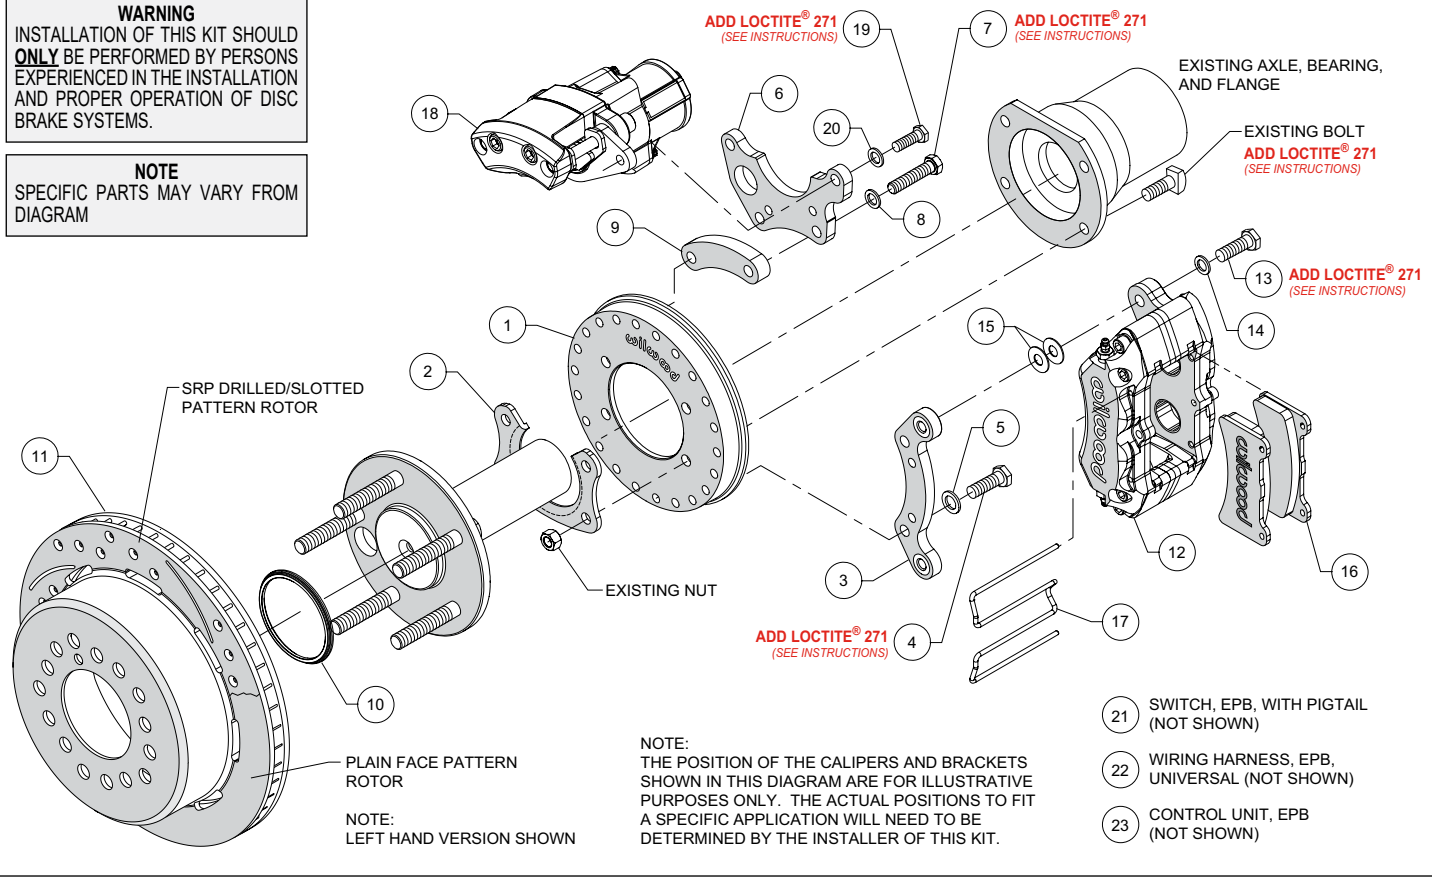
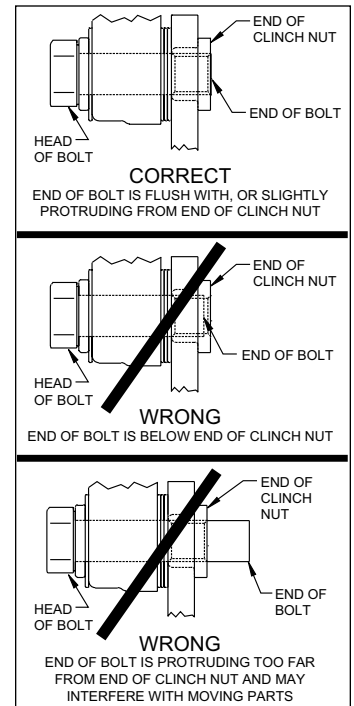

Figure 1. Typical Installation Configuration
Figure 5. Clinch Nut Engagement Diagram
NOTE: Numbers in parenthesis refer to the parts list and Figure 1 on the preceding pages.
CAUTION: All mounting bolts must fully engage clinch nuts. Be sure to check that all bolts are either flush or protruding through flanged side of clinch nut after shimming, Figure 5.
- Orient the backing plate (1) as shown in Figure 1 and Photo 1, and slide it onto the axle housing flange. Ensure the backing plate fits flush against the axle housing flange. Reinstall the axle into the axle housing.
- Install the bearing retainer (2) with the opening pointing upward and the lip facing inward (toward the bearing), as shown in Figures 1 and 4, and Photo 2. Secure retainer and backing plate to the axle housing flange using the Original Equipment Manufacturer (OEM) bolts and nuts, Figure 1 and Photo 3. Apply red *Loctite*® 271 to the OEM bolt threads and torque to OEM specifications.
- Start by determining the best location for the service caliper (12). This caliper is usually mounted in the 3:00 or 9:00 o'clock position, but may be rotated up or down approximately 45 degrees and still allow for proper bleeding, Photo 4. Orient the service caliper bracket (3) as shown in Figure 1 and Photo 5, and install to the backing plate (1) in the desired location using bolts (4) and washers (5). Temporarily tighten bolts. Next, mount the service caliper to the bracket using bolts (13) and washers (14). Temporarily tighten bolts. Check that the caliper (including inlet fitting and hose) has sufficient clearance to all surrounding components through the full suspension travel. Relocate the caliper/bracket on the backing plate as needed to ensure proper clearance is achieved.
- Determine the best location for the EPB caliper (18). **NOTE:** *The EPB caliper motor extends farther inboard than the service caliper and therefore needs additional consideration when determining a mounting location with sufficient clearance.* In the example application shown in Photo 6, the EPB caliper has sufficient inboard clearance to the leaf spring. However, if the EPB caliper were mounted closer to the 12:00 o'clock position, the inner body of the vehicle would hit the caliper during full compression of the suspension.
•Orient the EPB caliper bracket (6) as shown in Figure 1 and Photo 7, and install to the backing plate (1) in the desired location using bolts (7), washers (8), and spacer (9). Temporarily tighten bolts. **NOTE:** The EPB bracket is reversible. In one direction the bracket will position the EPB caliper closer to the service caliper, and vice versa if reversing the bracket. Next, mount the EPB caliper (18) to the bracket using bolts (19) and washers (20). Temporarily tighten bolts. **NOTE:** EPB calipers are Left and Right handed, however they can be used on either side of the vehicle to best suit your specific application. Check that the EPB caliper (including wiring harness connector) has sufficient clearance to all surrounding components through the full suspension travel. Relocate the EPB caliper/bracket on the backing plate as needed to ensure proper clearance is achieved.
•Once the caliper positions have been determined, remove both the service (12) and EPB (18) calipers, leaving both brackets in place on the backing plate. For both brackets, remove the bolts one at a time, apply red *Loctite*® 271 to the threads, and torque to 35 ft-lb.
•Slide the rotor registration adapter (10) onto the register on the axle flange with the smaller O.D. facing toward the rotor/hat (11), Photo 8. Align the correct hole pattern in the rotor/hat with the stud pattern on the axle flange and slide into place, Figure 1. **NOTE:** The rotor/hat must fit flush against the axle flange or excessive rotor run out may result. Install three lug nuts (finger tight) to keep the rotor/hat assembly in place while continuing with the installation. **NOTE:** Some OEM and after market axles come with stud sizes larger than 0.50" diameter. Verify stud size and have a qualified machine shop drill the bolt circle of the hat/rotor to the correct stud size, if necessary.
•**NOTE:** Please reference the caution statement at the beginning of the assembly instructions. Remount the service caliper (12) onto the caliper mounting bracket (3) using bolts (13) and washers (14), as shown in Figure 1. Initially place two .035" thick shims (15) on each bolt between the caliper and the bracket, Photo 9. Temporarily tighten the mounting bolts and view the rotor (11) through the top opening of the caliper. The rotor should be centered in the caliper, Photo 10. If not, adjust by adding or subtracting shims (15) between the bracket (3) and the caliper (12). Always use the same amount of shims on each of the two mounting bolts. **NOTE:** The end of each bolt must be flush with or slightly protruding from the head of the clinch nut, as shown in Figure 5. If necessary place spare shims (15) between washer (14) and caliper (12) mounting ear to achieve the proper clinch nut engagement. Once the caliper alignment and clinch nut engagement are correct, remove the bolts (13) one at a time, apply red *Loctite*® 271 to bolt threads, and torque to 40 ft-lb.
•Install the disc brake pads (16) into the service caliper (12), with the friction material facing the rotor (11), Photo 11. Secure the pads in place using pad clip retainer (17), Photo 12.
- Mount the EPB caliper (18) onto the caliper mounting bracket (6) using bolts (19) and washers (20), Figure 1. Apply red *Loctite*® 271 to bolt threads, and torque to 30 ft-lb.
- NOTE:** *The service caliper (12) in this brake kit utilizes a 1/8-27 NPT pipe thread inlet. OEM rubber brake hoses generally cannot be adapted to Wilwood calipers.* The preferred method is to use steel adapter fittings at the caliper, either straight, 45 or 90 degree (use PTFE tape on pipe threads of adapter fitting for proper sealing to caliper) and enough steel braided line to allow for full suspension travel. **Carefully route hoses to prevent contact with moving suspension, brake or wheel components.** **NOTE:** *Wilwood hose kits are designed for use in many different vehicle applications and it is the installer's responsibility to properly route and ensure adequate clearance and retention for brake hose components.* Wilwood offers universal brake flex line hose kits, domestic (3/8-24 IF) chassis fittings, order: